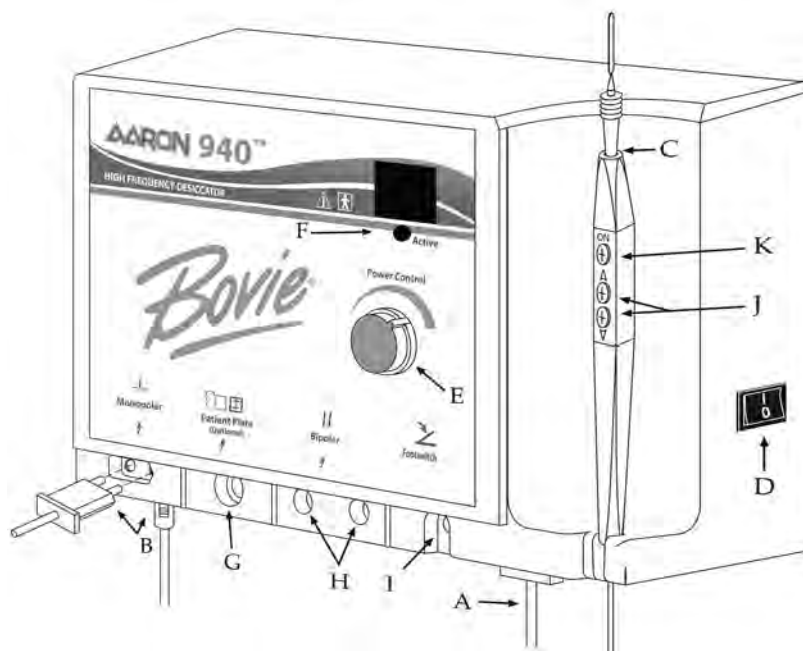

Figure 2
2. Plug the female end of the power cord into the base of the unit (see figure 2, letter A).
4. Plug the handpiece into the monopolar output on the lower left of the front on the unit (see figure 2, letter B). The plug is designed to fit in only one direction. Plug the smaller round connector from the handpiece into the
receptacle on the bottom of the unit (see figure 2, letter B). The three button handpiece is designed to give the doctor complete fingertip control of the power output settings.
5. Slide the standard electrode into the handpiece until it is firmly seated (see figure 2, letter C).
7. Turn the unit power on utilizing the switch on the right side panel of the unit (see figure 2, letter D).
8. Set the power output either by using the dial on the front of the unit (see figure 2, letter E) or on Aaron 940™ unit only by the up and down buttons on the handpiece (see figure 2, letter J). When power level adjustment is being made by the handpiece an audible tone will sound to indicate that the power level has been changed. Depressing and holding the up or down buttons will cause the power settings to change more rapidly for quick adjustment of the output settings. Power output is displayed in ".1" watt increments below 10 watts and in whole numbers from 10 to 40 watts.
9. To activate the unit, remove the handpiece from the holder. Place the handpiece in the desired position and depress the activation button (see figure 2, letter K). When the unit is activated, an audible tone is sounded and the blue active light will illuminate (see figure 2, letter F).
10. To use the optional grounding plate with cord (A802EU), insert the plug of the cord into the grounding plate output (see figure 2, letter G) and connect the other end into the grounding plate. The plate should be placed underneath the patient at a point where the entire plate is covered by bare skin.
11. To use the optional bipolar cord (A827EU), insert the plugs into the bipolar outputs (see figure 2, letter H). The cord is then plugged into the forceps. A sliding gate behind the monopolar and bipolar outputs prevents the user from using both simultaneously.
12. The optional footswitch is plugged into the footswitch output and placed on the floor (see figure 2, letter I). The footswitch can be used with monopolar procedures and must be used with bipolar procedures.